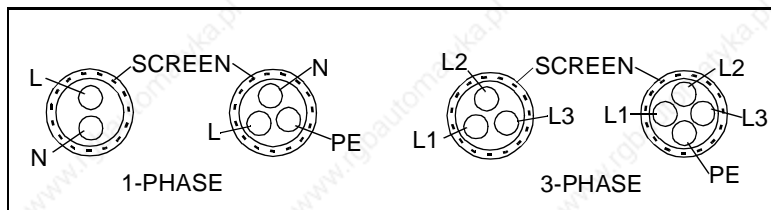

Figure A-1 Permissible mains cables.
**Note!** A three-conductor screened cable (single phase and neutral with protective earth) or four-conductor (three-phase with protective earth) are recommended for the mains cabling, see Figure A-1. Dimension the cables and fuses in accordance with the input/output current. Refer to Table A-1. *Always pay attention to local legislation when sizing the cables and fuses.*